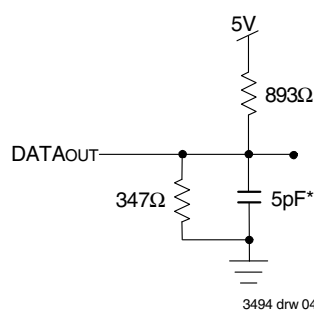

Figure 2. Output Test Load
1. Transition is measured 0mV from Low or High-impedance voltage with the Output Test Load (Figure 2).